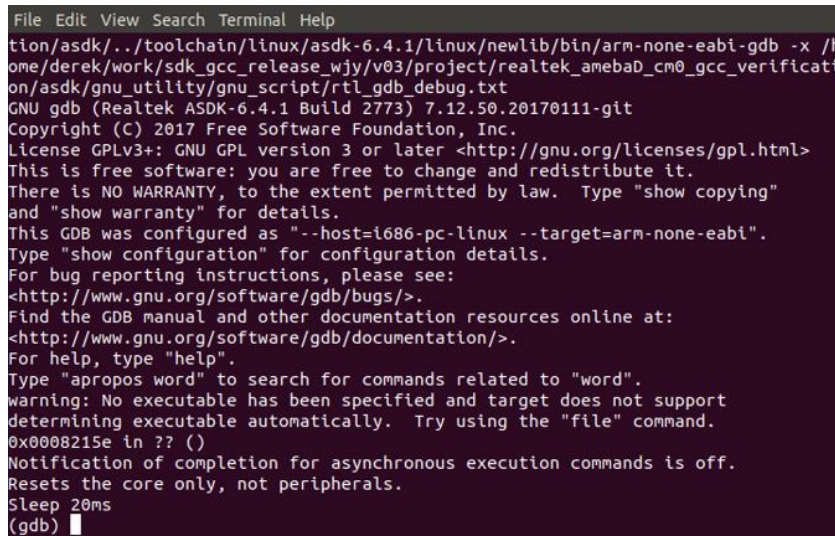

Fig 1-29 Debug window under Linux
- For Linux, the log is shown in Fig 1-29.